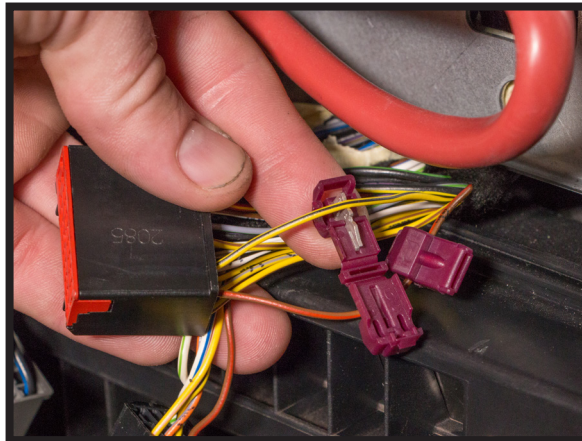

FIGURE 8
6. INSTALL EACH 3-WAY WIRE SPLICE ON THE BLACK 20-PIN CONNECTOR. SEE DIAGRAM BELOW. (FIGURES 8, 9)